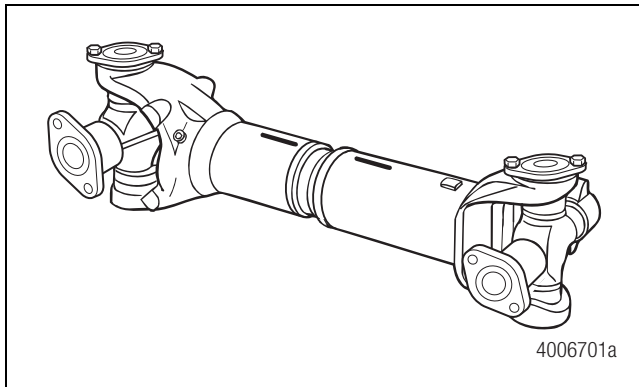

Figure 5.8
2. Install the slip shaft into the slip yoke. Ensure that you reassemble the sections into their original positions by using the marks made during disassembly. Figure 5.8.